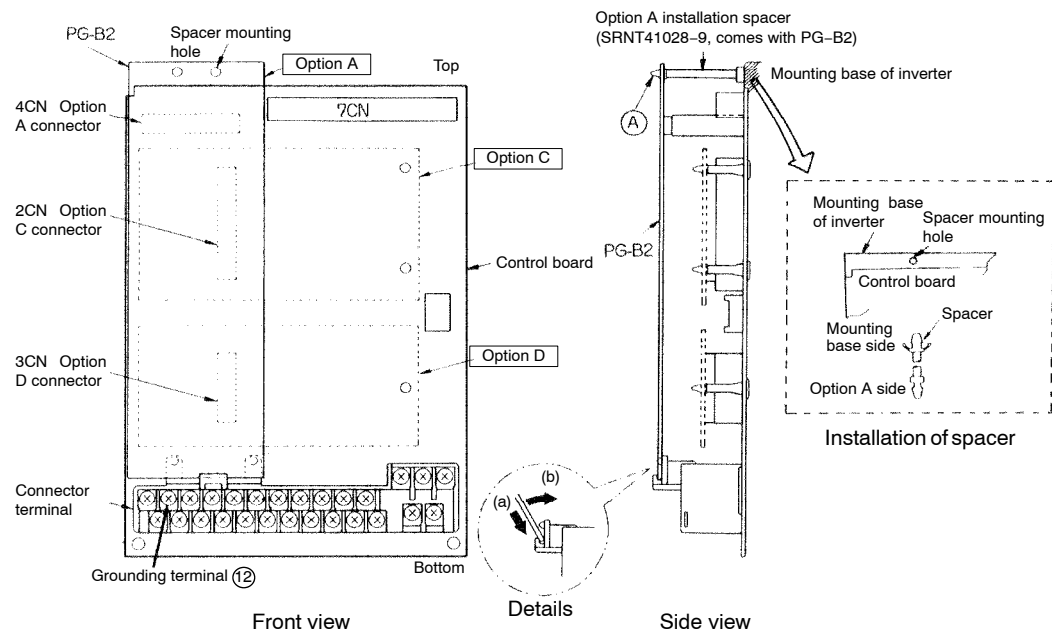

Fig. 3 Installation of PG speed control card PG-B2
## 2 Installing to Inverter (See Fig. 3)
- ① Turn OFF the main power and wait for the time specified on the cover of the inverter. Remove the cover and verify that the CHARGE indicator lamp is OFF.
- ② Insert the attached spacer (SRNT41028-9) into the spacer mounting hole in the mounting base of the inverter. (See Fig. 3.)